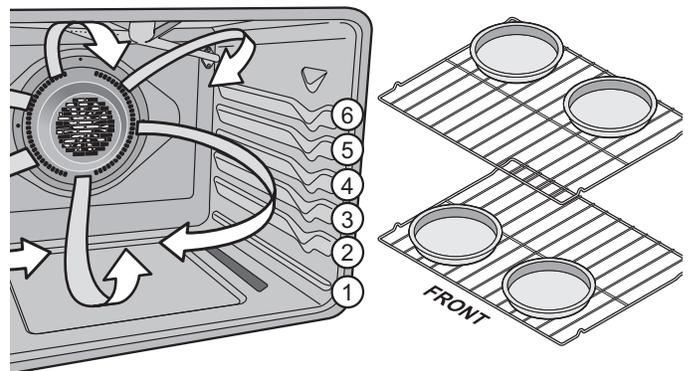

Figure 18: Pan spacing and oven rack positions
- When using 2 oven racks place racks in positions 3 and 5 for and position cookware as shown in Figure 18.